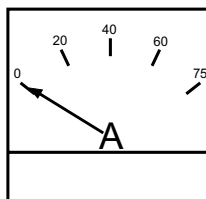

**Figure 43. Voltage Meter (Volts)**
10. The generator's voltage meter (Figure 43) displays the 120 VAC in **VOLTS**. If the voltage is not within the specified frequency tolerance, use the voltage adjustment control knob (Figure 44) to increase or decrease the desired voltage.